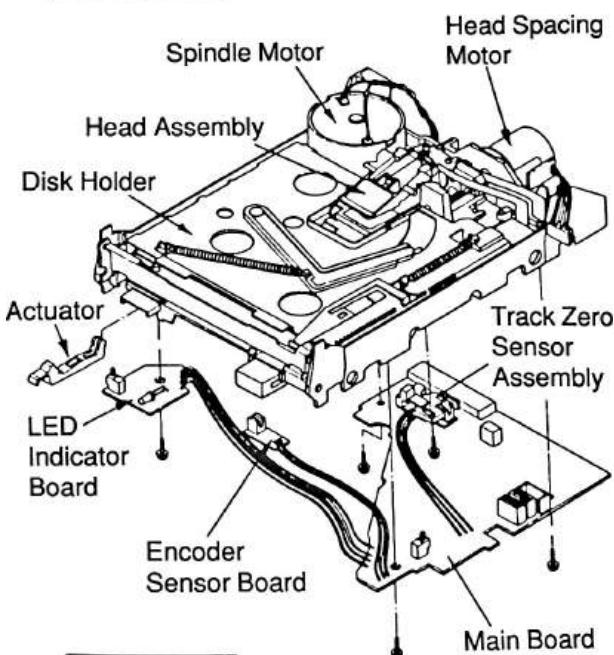

Figure 2
3) Remove one screw each from the encoder sensor board, LED indicator board and T00 track sensor assembly and three screws from the main board as shown in Figure 2.
4) Remove the main board, encoder sensor board, LED indicator board and track zero sensor assembly as shown in Figure 2.
5) Remove the actuator as shown in Figure 2.